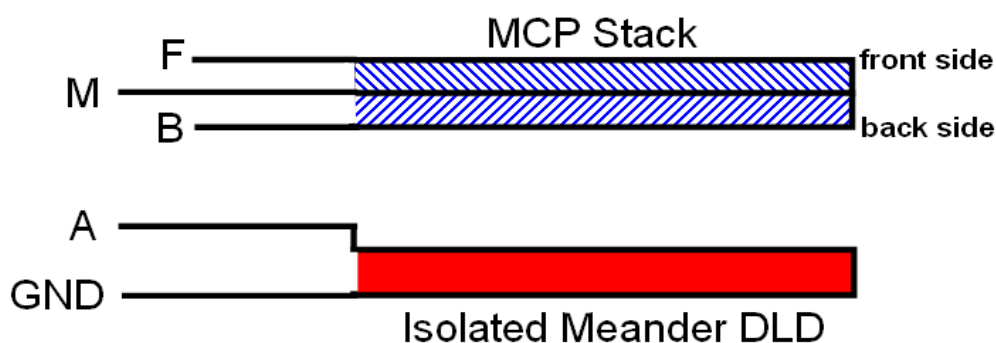

Figure 8: Internal connection of high voltage potentials [schematic].
The channel naming of the three 12pin feed-throughs can be found directly written on the CF63 flange. The high voltage potentials for the delayline detector MCP front (F), middle (M), back (B) and detector anode (A) are written directly on the SHV feed-throughs. The internal high voltage connection for the delayline detector is given schematically in Figure 8.